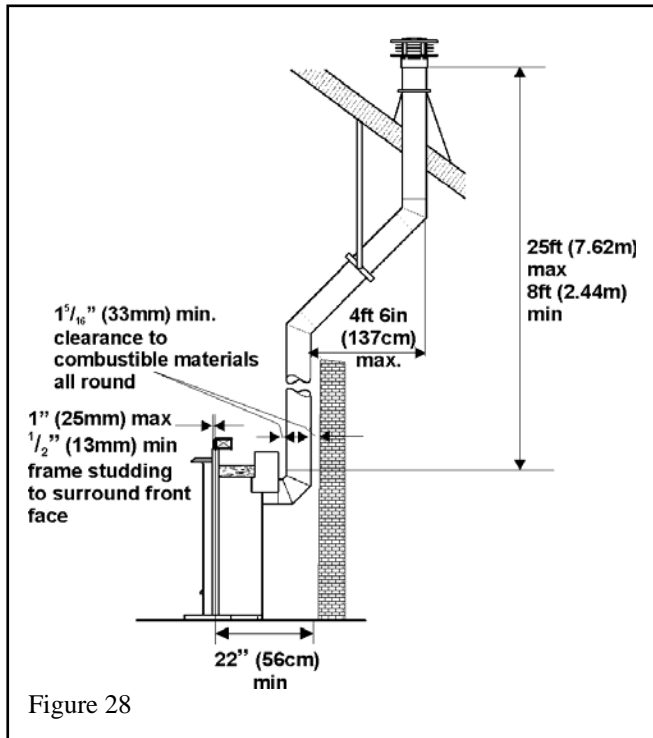

Figure 28
5.2.8. Rear vent connection, vertical vent rise with offset and through the roof termination (Fig.28)